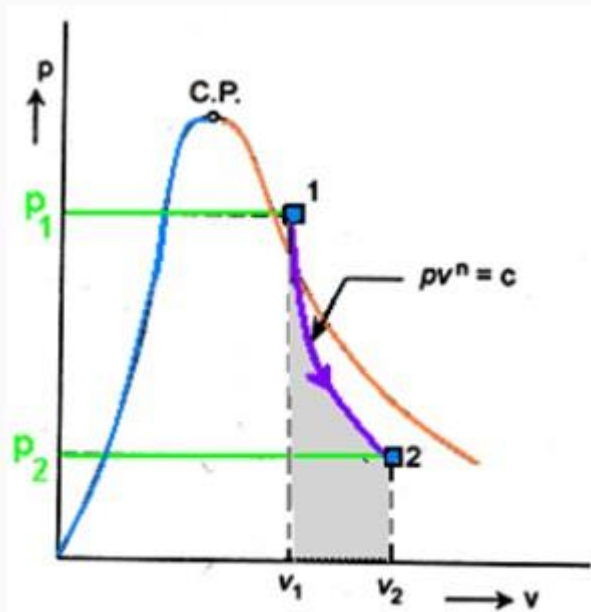

Fig. 22.5. Polytropic process
**(a) p-v Representation:** Assume that steam undergoes a polytropic expansion process following the law  $pv^n = c$  from pressure  $p_1$  to  $p_2$ . It is to be noted that steam does not behave as perfect gas obeying  $pv = RT$ . The equation  $pv^n = c$  is merely a statement of pressure-volume relationship during a reversible polytropic process. The non-flow polytropic process has application in steam engines, etc. This process is represented as 1-2 on p-v diagram shown in Fig. 22.5 in which the initial condition is superheated steam at pressure  $p_1$  and super heating temperature  $t_{\text{sup},1}$  to the final condition of wet steam at pressure  $p_2$  and dryness fraction  $x_2$ .